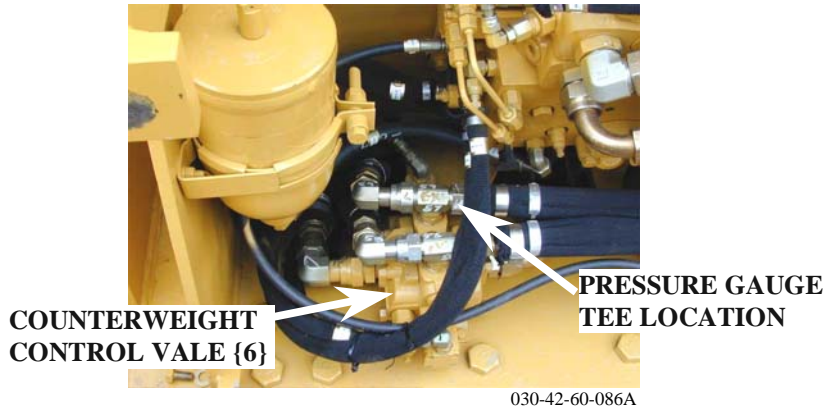

Figure 68: Location of counterweight pressure gauge tee.
5. Using an additional tee fitting, attach a 40 000 kPa (5800 psi) pressure gauge in the line at the tee shown in Figure 68.